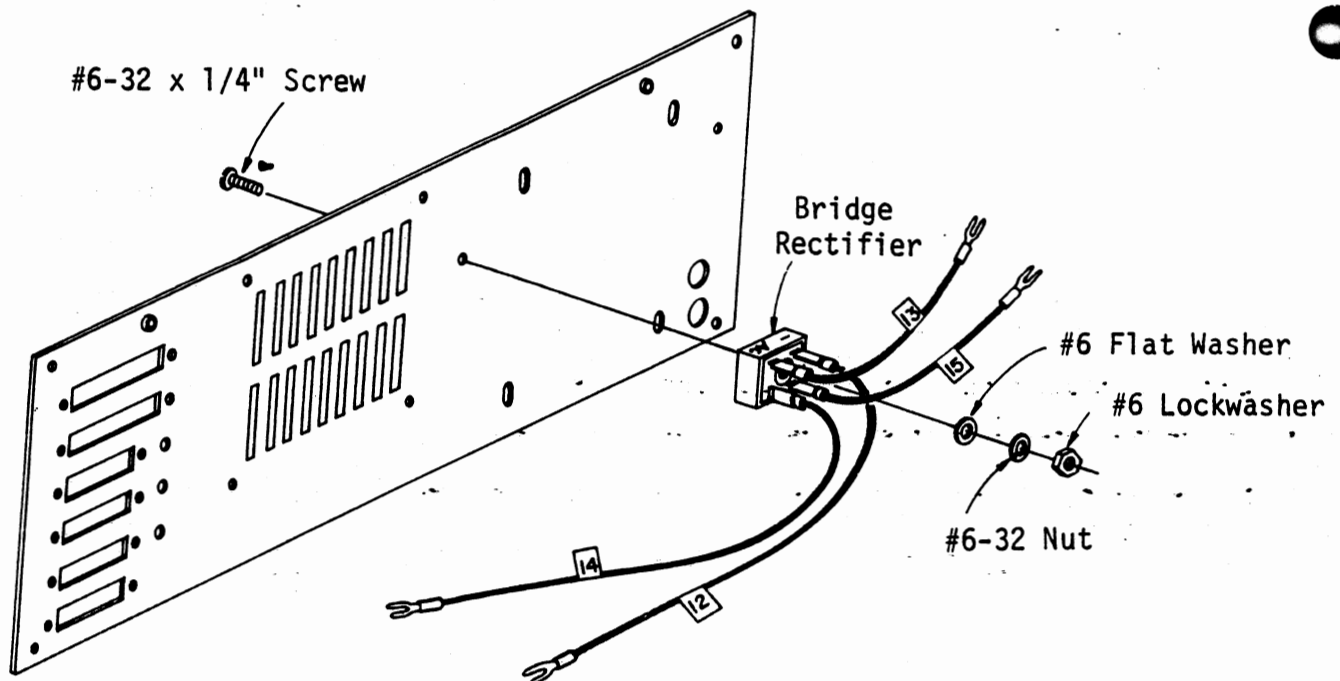

Figure 5-51. Bridge Rectifier Installation
(Figure 5-51)
Use the following instructions to wire the bridge rectifier (Bag 1) and mount it to the back panel as shown in Figure 5-51. The bridge rectifier is part number KBH25005.
- ✓ 4. Slip the A size terminal ends onto the bridge rectifier terminals as shown in Figure 5-51. Attach the two 4-inch wires to the "AC" terminals and use masking tape to label them 13 and 15. Attach the two 19-inch wires to the "+" and "-" terminals and label them 14 and 12 respectively.